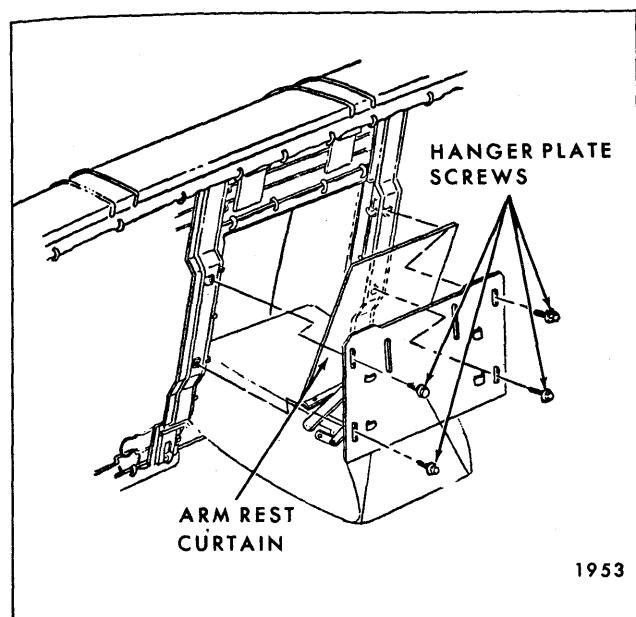

Fig. 10-45—Rear Seat Back Arm Rest and Hanger Plate
2. On back side of rear seat back, remove four screws securing arm rest hanger plate to seat back supports; then, carefully remove arm rest and hanger plate assembly from seat back (Fig. 10-45).